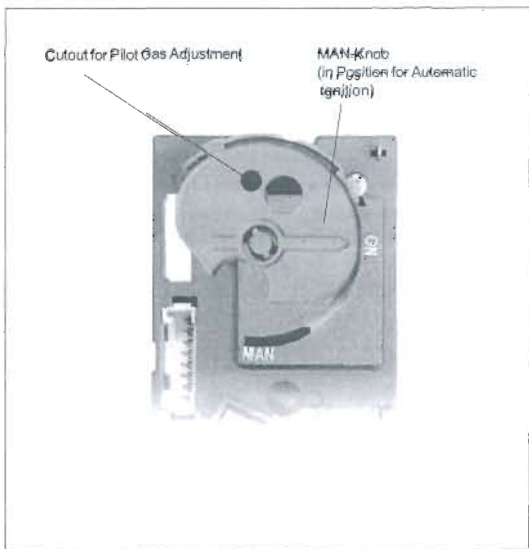

Figure 8: Combination Control, Detail View MAN-Knob
- MAN-knob (valve) in **MAN** position (Figure 8)